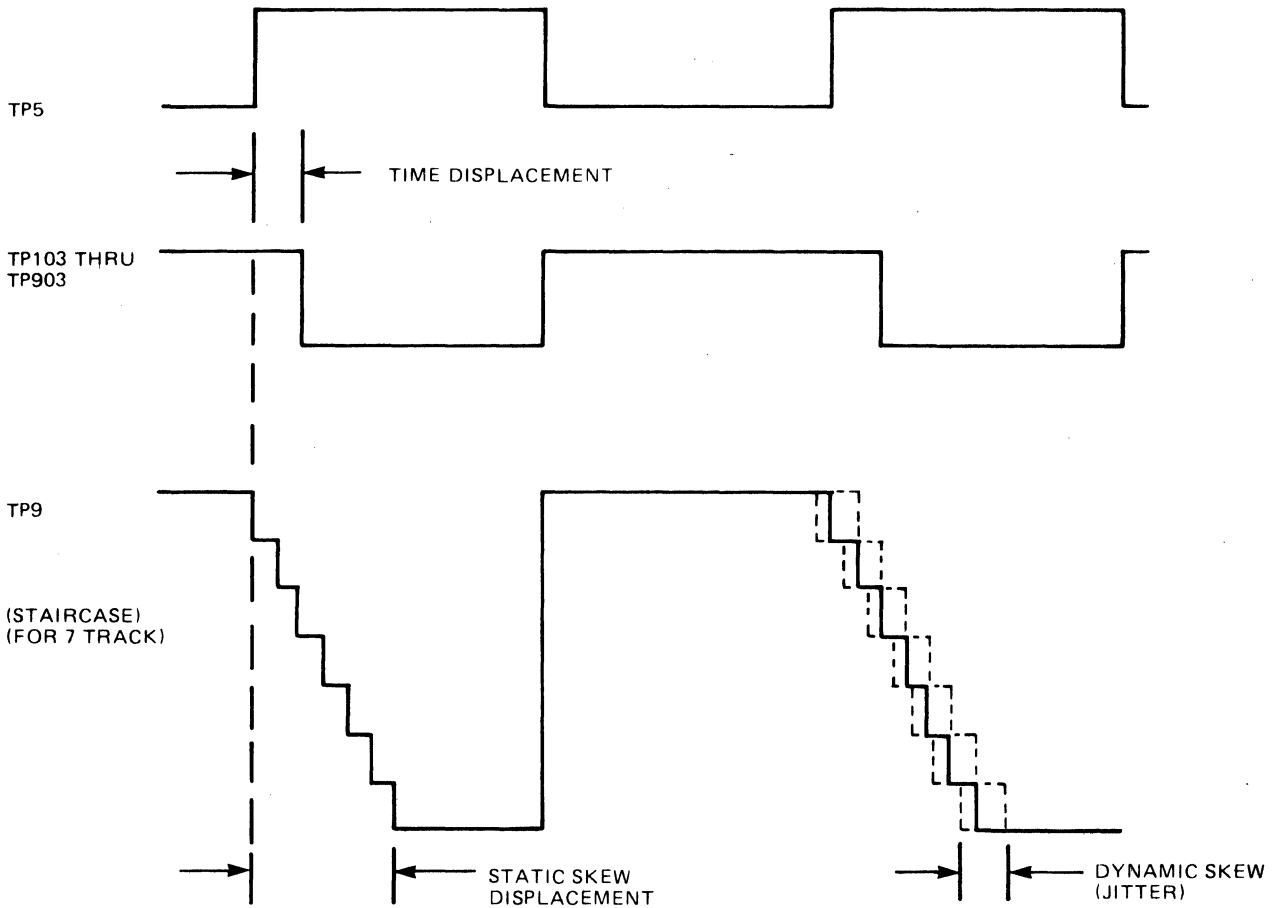

Figure 5-6. Time Displacement between Channels A and B and 7-Track Staircase Skew Waveforms
- b. Set the forward/reverse switch to forward and monitor TP103 through TP903 with channel B of the oscilloscope. Record the time displacement between channels A and B (figure 5-6).
A quick check of all read skew or write deskew can be made by observing the waveform at TP9 (figure 5-6). The length of time from the first step to the last is the total skew displacement. The total read skew (static and dynamic) using an IBM master skew tape, should be no more than 175 microinches. If the skew cannot be brought within limits by shimming the fixed guides, adjust the tape path in accordance with paragraph 5-48.
- d. Set the forward/reverse switch to forward. Observe the time displacement between the two signals displayed on the oscilloscope (see figure 5-6). Calculate the amount of displacement (refer to table 5-3).